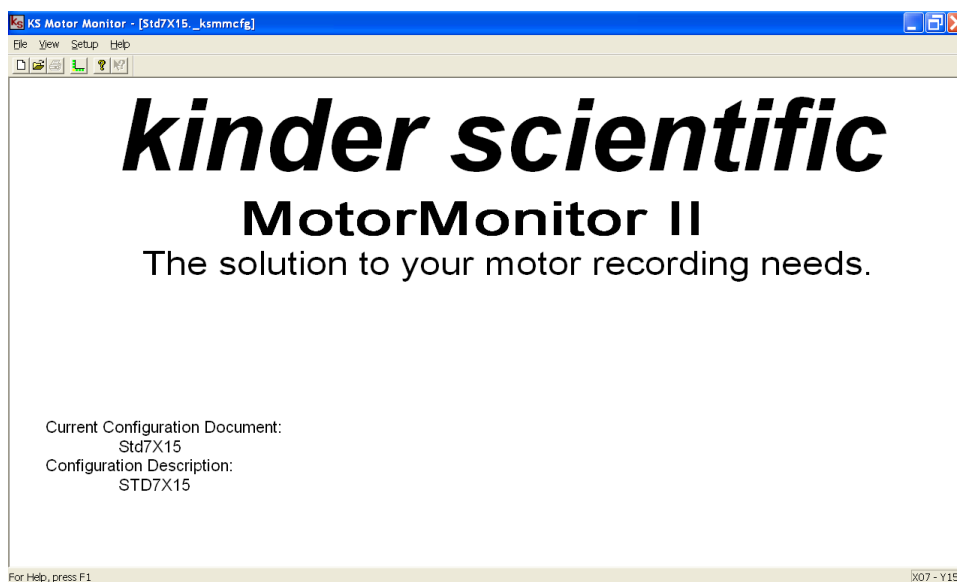

Figure 1-3. MotorMonitor Start Up Screen
1. Turn on the PC and open the MotorMonitor program. A screen similar to the one shown in Figure 1-3 will appear.